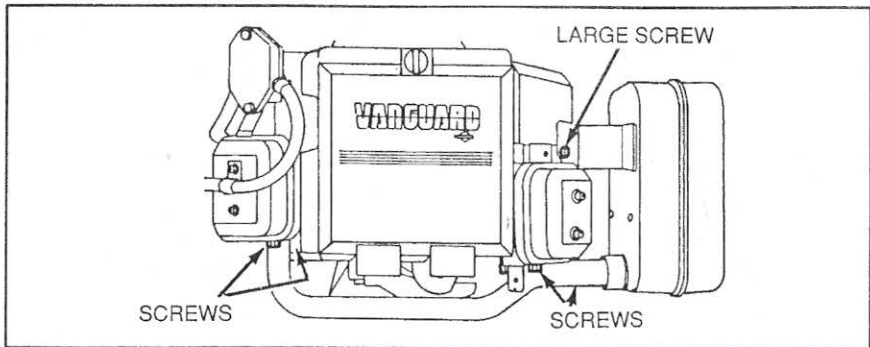

Fig. 2
2. Coat threads of exhaust manifold screws with Part #93963, Valve Lubricant. Install exhaust manifold, exhaust gaskets, and screws. Torque screws to 190 in. lbs., Fig. 2.
3. Coat zinc colored screws with Part #93963. Assemble muffler bracket to muffler with two screws. Hand tighten screws. Place remaining two screws in two remaining holes, Fig. 2.